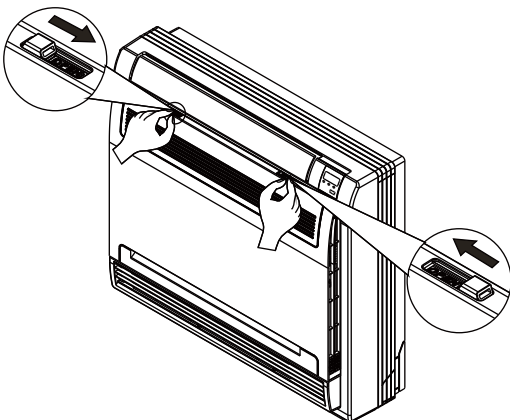

Fig.50-6
- Slide the two stoppers on the left and right sides inward until they click. See Fig.50-6.